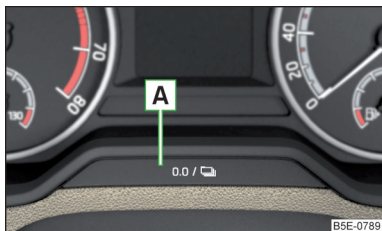

Fig. 39
The counter can be reset by tapping the button **A** » Fig. 39 on page 50 or in Infotainment via the menu **CAR/** → → **Instrument cluster menu**.
- › Press and hold the button **A** » Fig. 39 until the time is shown in the display.